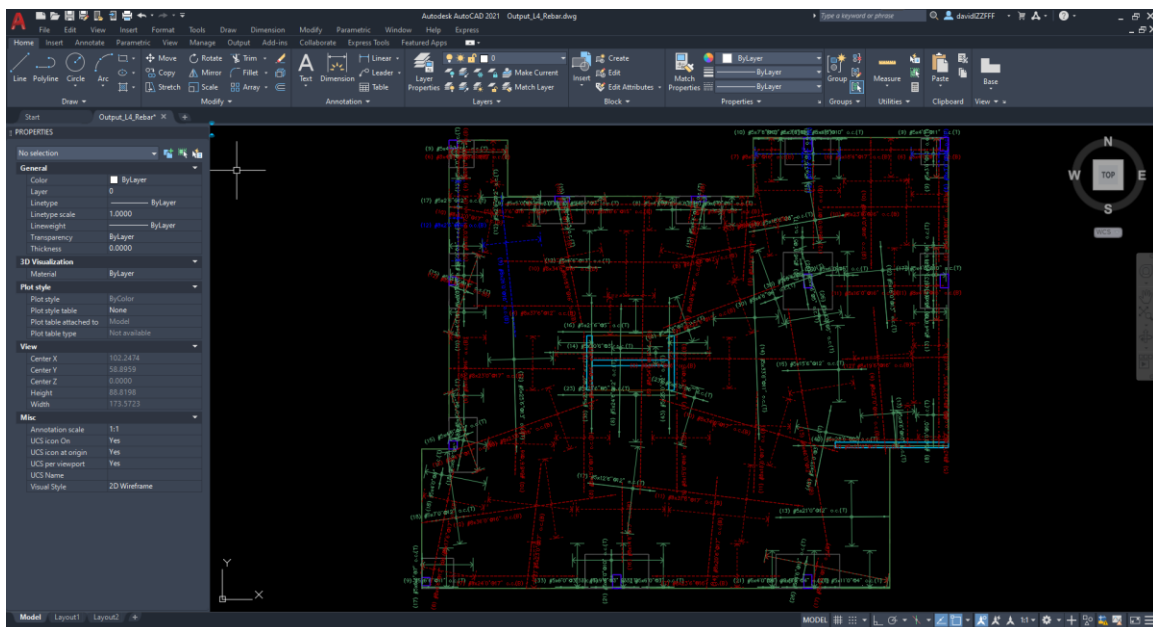

FIGURE 10-32
- Opening the drawing the user should have a CAD file that looks similar to the CAD file shown in **FIGURE 10-32**.